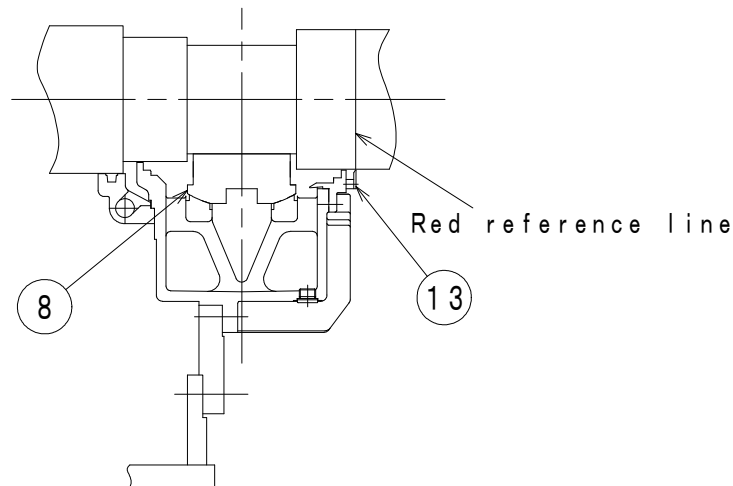

Fig. 12
6.3.2 Reassembly of bearing shell lower half (see Fig. 12)